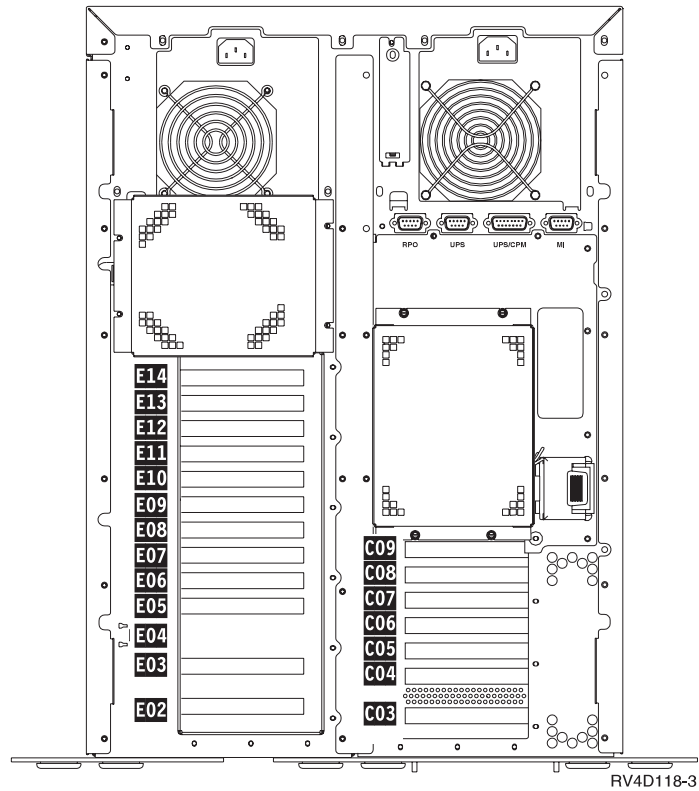

Figure 2. Adapter Card Positions
1. The adapter card slots are E02 through E14 in the expansion unit, (Figure 2). Slot E01 is not an available position.